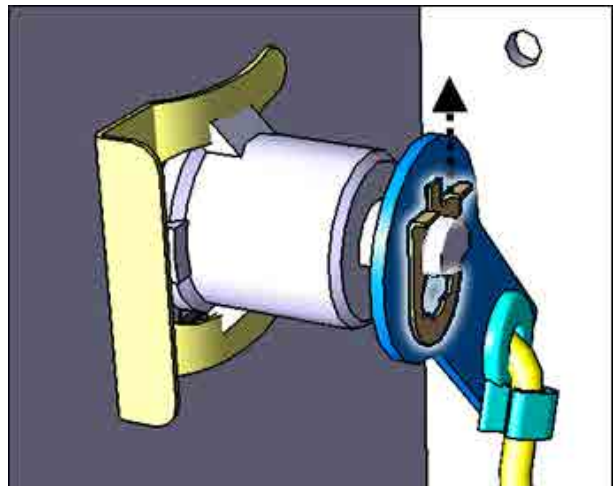

FIGURE 4
4. Remove the clip holding the lever. (Fig. 4)